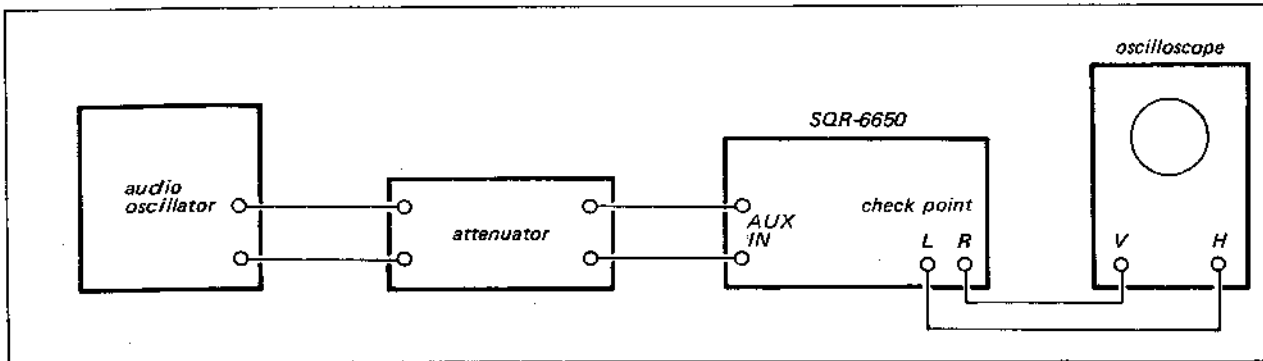
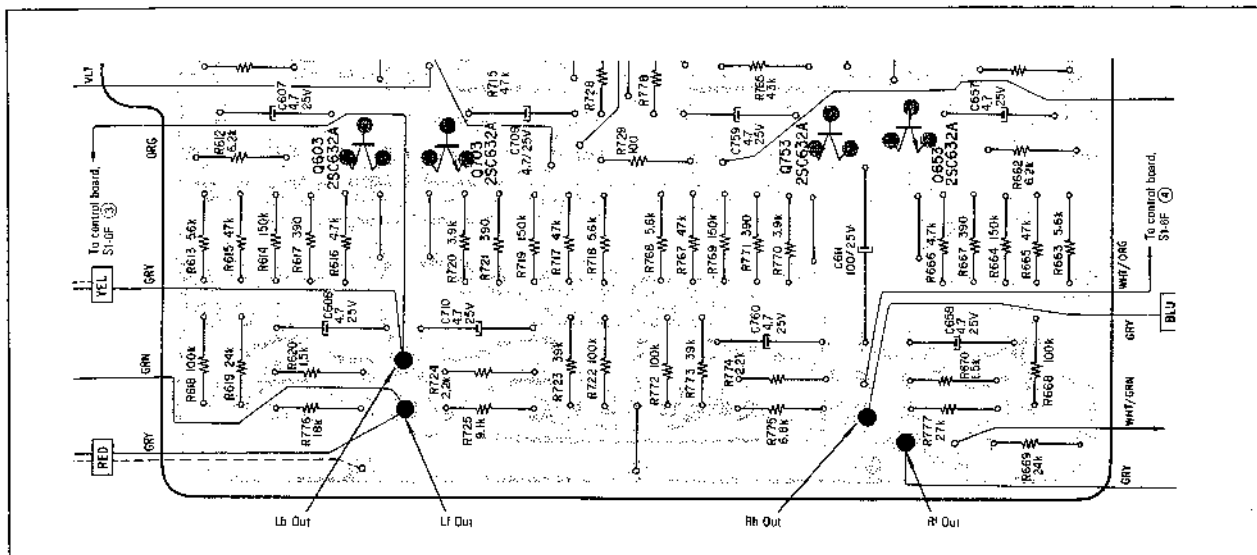

Fig. 3-19. SQ decoder section operational check test setup
Fig. 3-20. SQ decoder section check point
2. With the equipment connected as shown in Fig. 3-19, apply a 1 kHz, -10 dB (0.245 V) signal to AUX, L-CH input and measure Lf' and Rf' output level (separation) at the check point on the SQ decoder board as shown in Fig. 3-20. Reference output level is as follows:
3. Apply a 1 kHz, -10 dB signal to both L-CH and R-CH AUX inputs simultaneously and measure Lf', Rf', Lb' and Rb' output levels (front-to-back separation) at the check point on the SQ decoder board as shown in Fig. 3-20. Reference output level is as follows: